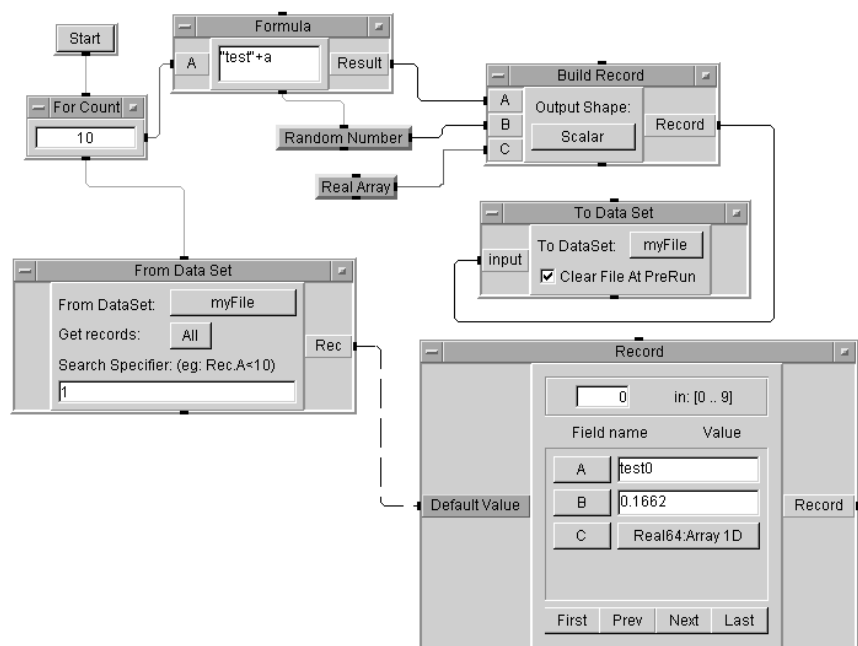

Figure 140 Storing and Retrieving Data Using DataSets
- 12 Run the program and save it as **dataset1.vee**. The program should look like Figure 140.